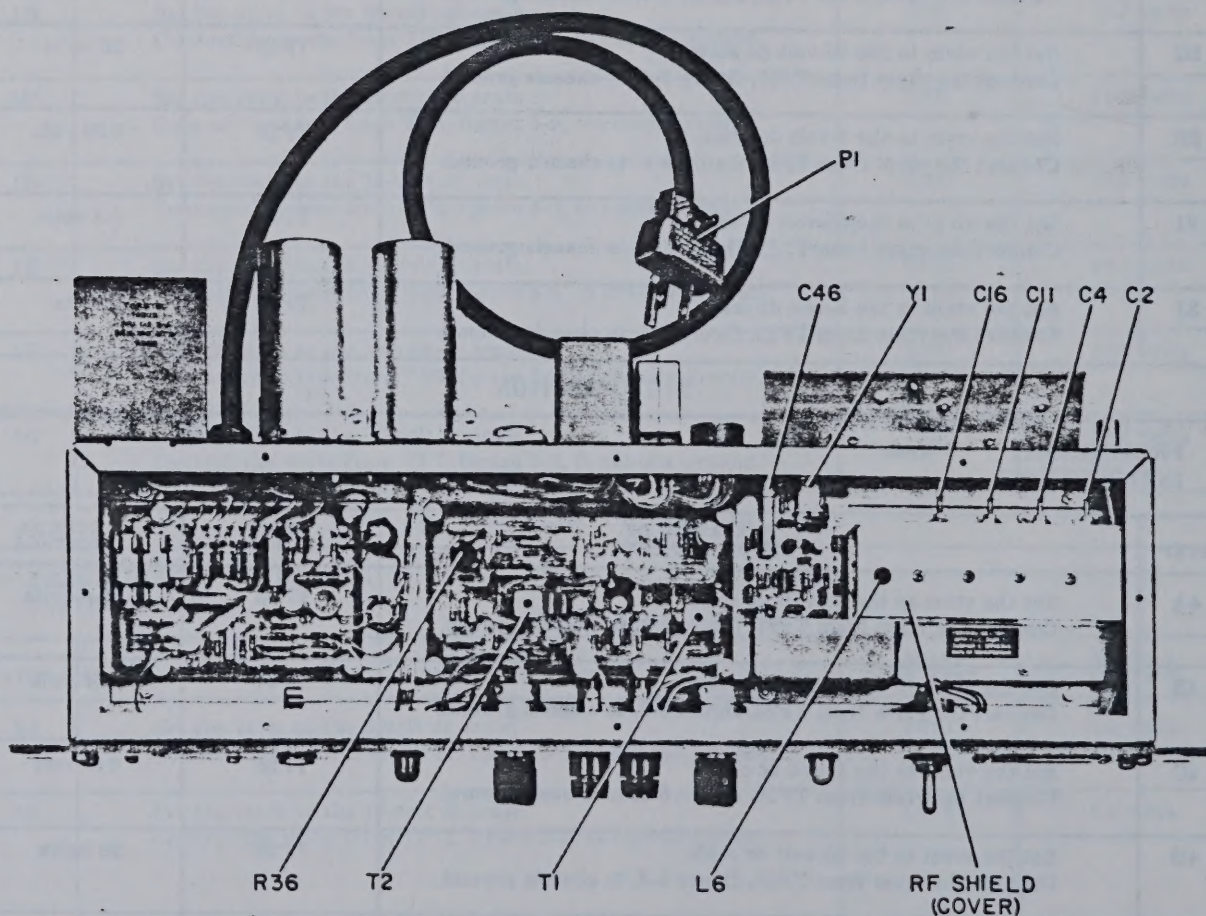

Figure 5-8. Receiver, Tuning Control Locations
a. Connect the primary power source to the receiver. If an ac source is to be used, insert ac power cable plug P1 (see figure 5-8) into the ac outlet. Refer to Chapter 2, Section III for information pertaining to 115- or 230-volt operation. If a 27.5-volt battery or dc generator is to be used, refer to figure 5-1 and connect the power source to terminal board TB1 on the test panel as follows: positive lead to terminal 1 and negative lead to terminal 2. Turn the power on.
| PRELIMINARY INSTRUCTIONS: Refer to figure 5-8, and remove the rf shield cover.After completing the rf and mixer voltage measurements, replace the rf shield cover.                                                                                                                                                                                                                                                                                                                                                                                                                                                                                                                                                                                                                                                                                                    |                                                                                                     |               |                 |
a. Refer to figure 5-8, and adjust the slugs of capacitors C2, C4, C11, and C16 to the full counterclockwise position.
a. Refer to figure 5-8, and adjust the slug of capacitor C46 to the full counterclockwise position.
a. Refer to figure 5-8, and observe the socket for crystal Y1 through the access hole in rear of chassis. If a crystal is installed in the socket, proceed as follows: Cover the jaws of a pair of long-nose pliers with plastic tape, grasp crystal Y1 with the pliers, and pull the crystal from the socket to the point where the crystal is stopped against the crystal mounting clip. Twist the crystal approximately 45 degrees to free it from the mounting clip, and withdraw the crystal from the access hole.
f. Refer to figure 5-8, and adjust capacitor C46 *slowly* until the 1000-cps audio signal is heard in the headset.
e. Refer to figure 5-8, and adjust capacitors C2, C4, C11, and C16 *in sequence* for a *peak* indication on the power output meter, reducing the output of the signal generator as necessary to maintain the indication *below* 0.6 watt.
Mixer coil L6 and i-f transformers T1 and T2, figure 5-8, have been carefully adjusted at the factory for optimum performance. Readjustment is seldom required. If readjustment becomes necessary for reasons such as replacement of these parts or other associated parts, follow the procedure outlined in subsequent steps *a* through *i*.
a. Refer to figure 5-8, remove the eight mounting screws from the top equipment cover, and remove the cover.
b. Refer to figure 5-8, and detune capacitor C16 by turning the slug of the capacitor approximately three turns in a counterclockwise direction. This reduces the effects of receiver front-end noise, permitting accurate adjustment of the mixer and i-f circuits.
g. Refer to figure 5-8, and adjust the slug of coil L6 and/or transformers T1 and T2, as necessary, for a *peak* indication on the power output meter. Reduce the output of the signal generator during the tuning process to maintain the output indication *below* 0.6 watt.
h. Refer to figure 5-8, and readjust capacitor C16 for a peak indication on the power output meter, reducing the output of the signal generator as necessary to maintain the indication below 0.6 watt.
Muting control R36, figure 5-8, is included in the receiver to provide a means of establishing the audio output level when the receiver is operating below the squelch threshold. Effective range of the control is from -6 to -30 db, with maximum signal attenuation occurring in the full counterclockwise position. To adjust control R36, follow the procedure outlined in subsequent steps *a* through *i*.
e. Refer to figure 5-8, and adjust muting control R36 to the full clockwise position.